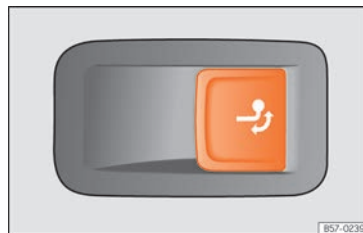

Fig. 203 On the right side of the luggage compartment: button for unlocking the tow hook.
- Pull the »» Fig. 203 button briefly. The tow hook unlocks electrically and automatically turns outwards. The button's control lamp flashes.
- Pull the »» Fig. 203 button briefly. The tow hook unlocks electrically.
- If the warning light on the button »» Fig. 203 → flashes, this means that the tow hook has not been attached properly or is damaged »» ⚠.
- If the warning lamp »» Fig. 203 → remains on with the rear lid open, the tow hook is correctly in place both when extracted and when covered.
- Never press the »» Fig. 203 button when there is a trailer hooked to the vehicle or when a carrier system or other accessories are mounted on the tow hook.